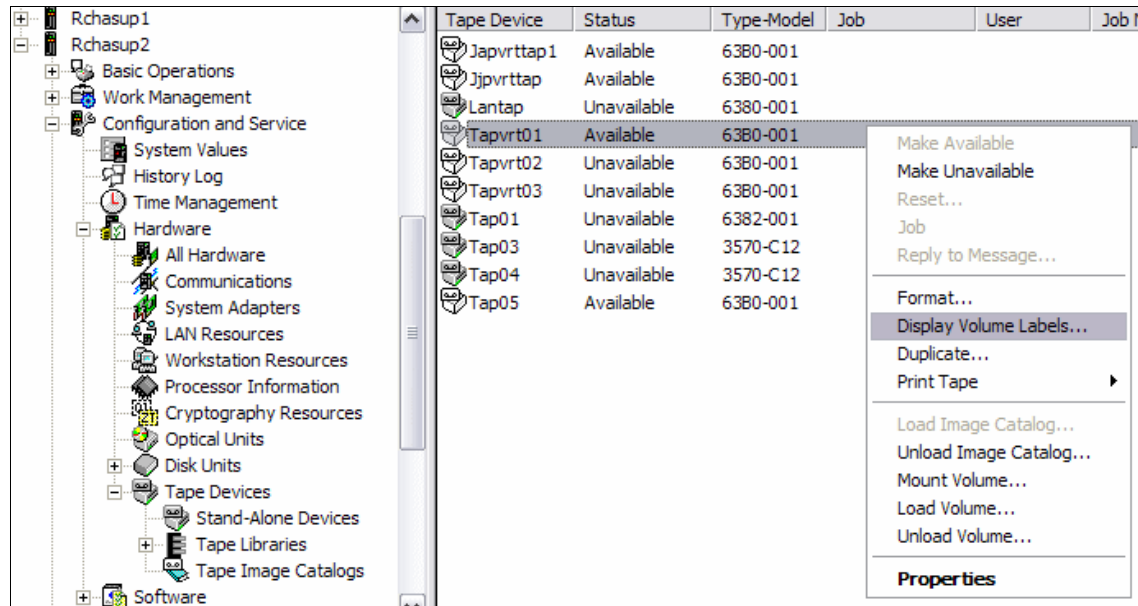

Figure 3-60 Display volume for density through Navigator
**Devices.** Then right-click the tape drive and select **Display Volume Labels**, as shown in Figure 3-60.